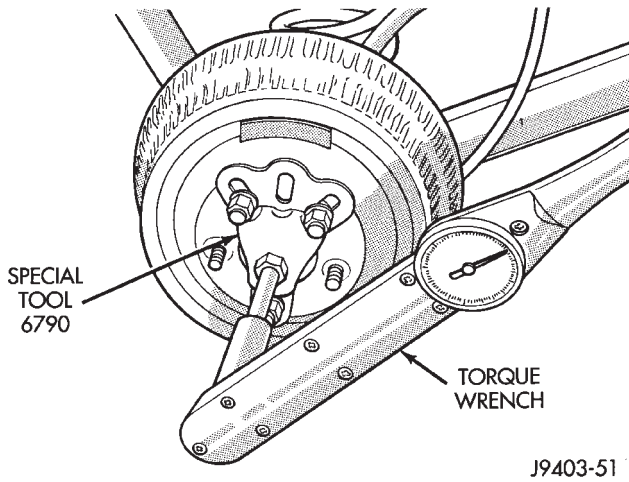

Fig. 2 Trac-Loc Test
- (1) Engine off, transmission in neutral, and parking brake off.
- (2) Place blocks in front and rear of both front wheels.
- (3) Jack up one rear wheel until it is completely off the ground.
- (4) Remove wheel and bolt special tool to studs.
(5) Use torque wrench on Special Tool 6790 to rotate wheel and read rotating torque (Fig. 2).